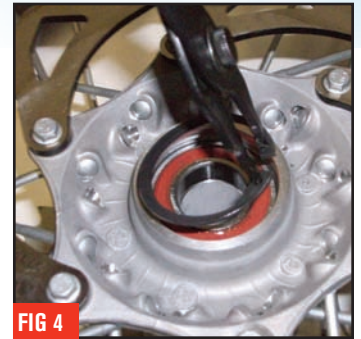

FIG 4
- 5 Using snap ring pliers, remove the bearing retaining snap ring from either the disc or sprocket side of the wheel (Fig. 4). **NOTE: YOU WILL NOT BE RE-USING THIS SNAP RING DUE TO THE EXTRA WIDTH OF THE BEARINGS IN THIS KIT.**